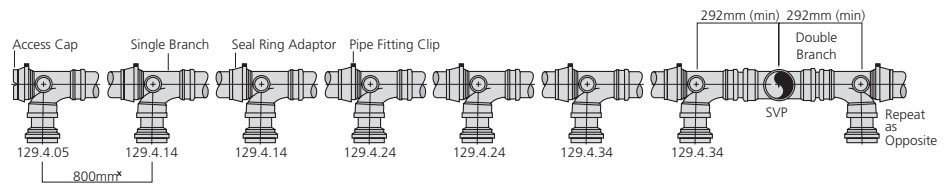

Fig.39a Multiple WC pan connections layout
■ Select 129 WC Manifold Connectors variants as shown (Fig.39a) to accommodate fall in float